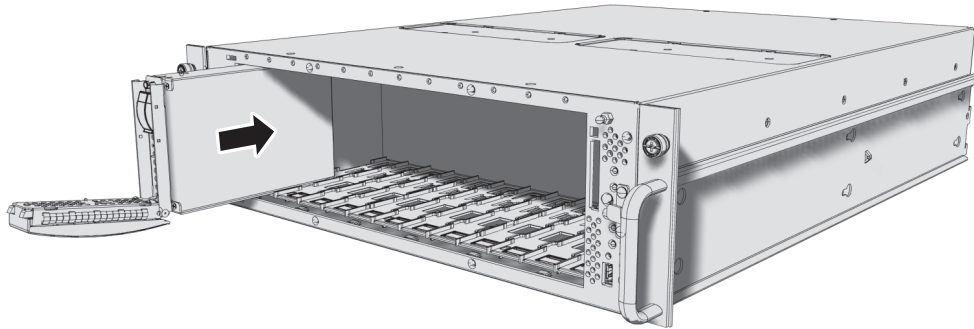

Figure 19. Installing a Hard Drive Carrier
- b. With the hard drive latch open, slide the hard drive carrier gently into an open hard drive bay (refer to Figure 19).